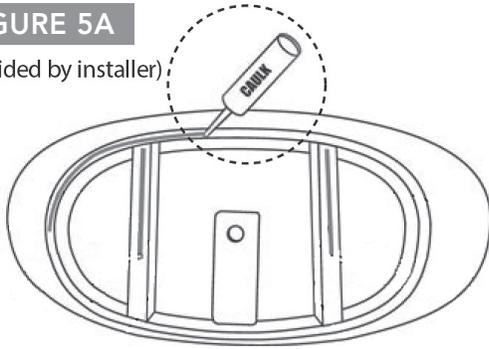

FIGURE 5B
- 11 Then apply a bead of tub and tile caulk or silicone around the edge of the base (Figure 5B).